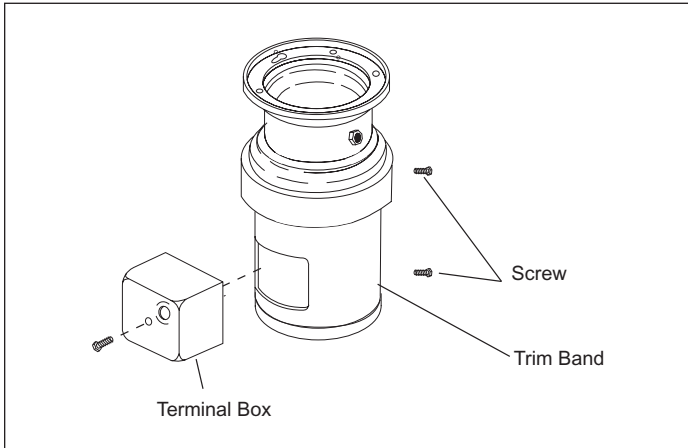

Figure 26. Terminal Box and Trim Band
2. Remove terminal box and trim band (Figure 26).
3. Reinstall trim band and terminal box (Figure 26).